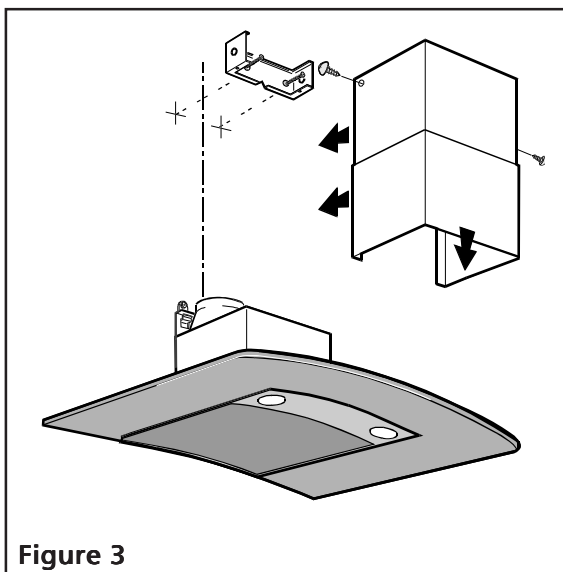

Figure 3
10. Install duct cover ceiling bracket to wall flush to ceiling with drywall anchors supplied. Figure 3.
20. Install duct cover per Figure 3. Make sure to leave this manual for the home owner.